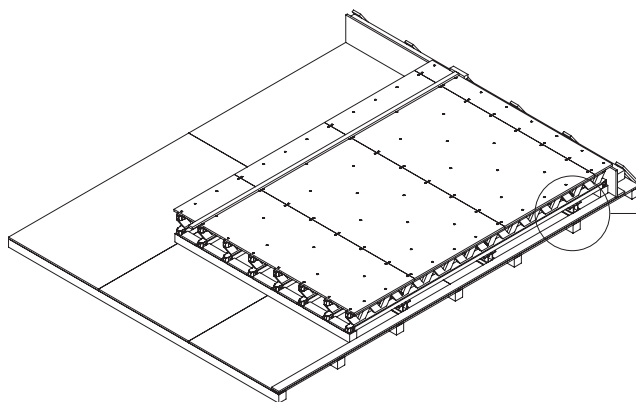

Fig. A1.06
6. Position the plywood and fix the first sheet with nails. (Fig. A1.06)